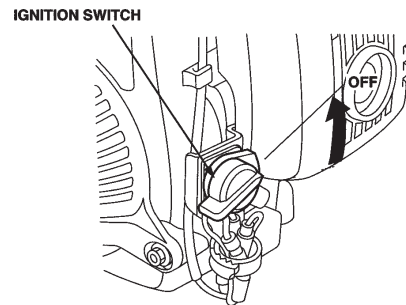

Figure 21. Ignition ON/OFF Switch (OFF Position)
5. Place the engine **ON/OFF Switch** (Figure 21) in the **OFF** position.